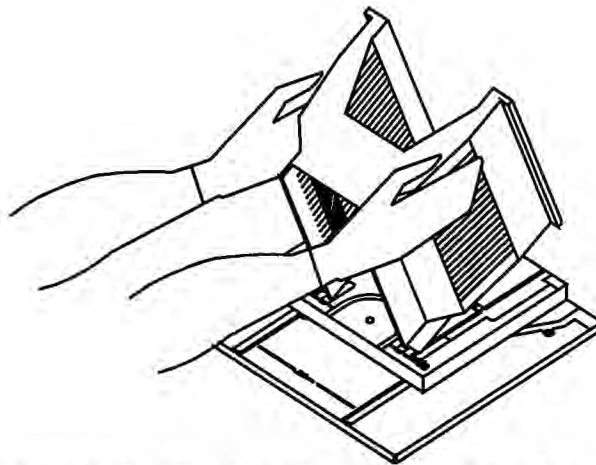

Figure 8-22 Placing a Cassette on a Locator
2. Place the cassette on the sender cassette locator (Fig. 8-22) as follows: